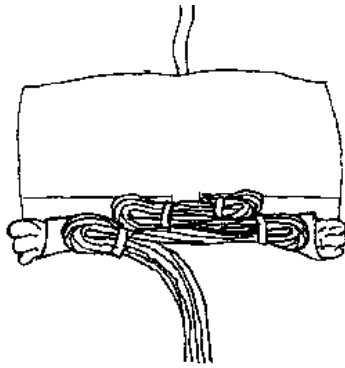

Figure 2-7
Step 12 Make locking stows using the suspension lines to close the mouth of the bag. There are four locking stows (*Figure 2-7*).